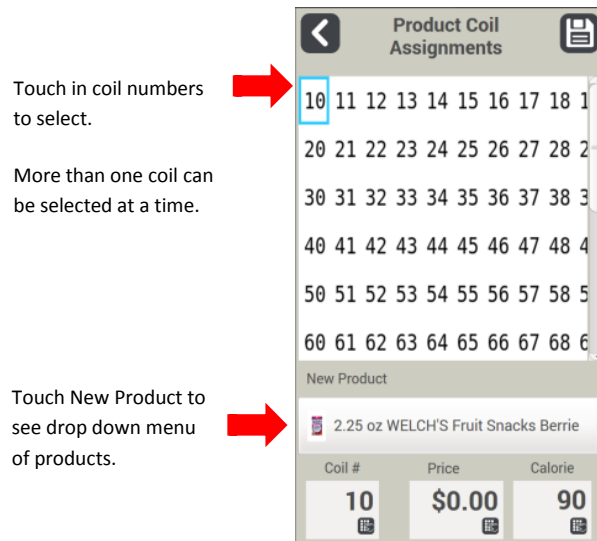

Figure 64
- From the Coil Product Assignment screen select a selection or if there is multiple selections that need to be changed to the same product select those selections as well. (See Figure 64.)